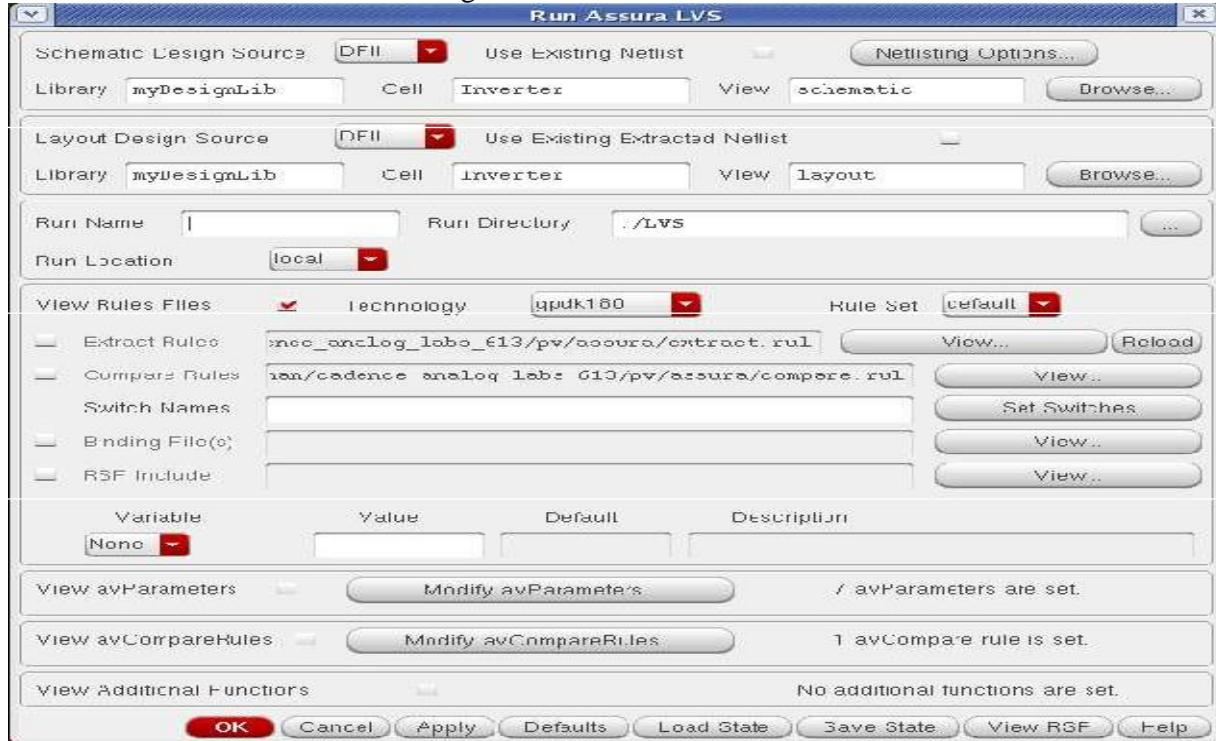

Figure1.24:LVS Window
2. Set the LVS window as shown in figure1.24 and click OK.